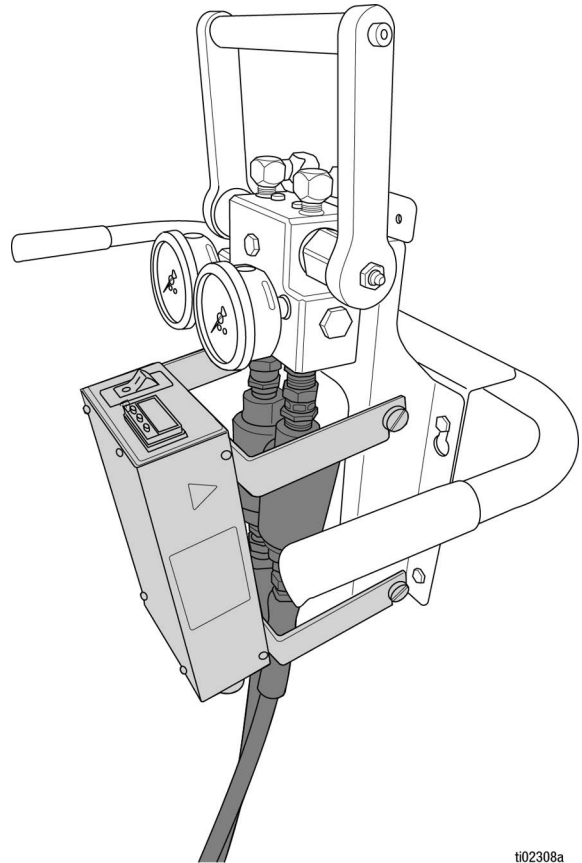

FIG. 8: Control Module Final Assembly
4. Position the Control Module on the thumb screws. Tighten thumb screws by hand or by 3/16" hex drive. See FIG. 8 for final assembly.